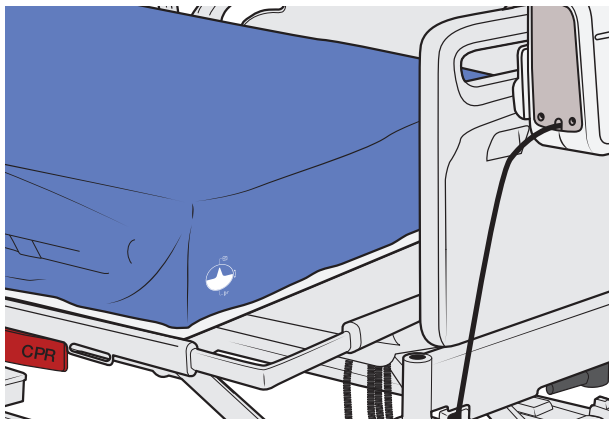

Figure 34
11. Make sure that the bolster valves are positioned in the extended part of either side of the bed. (Auralis Plus mattress only.) See Figure 34.